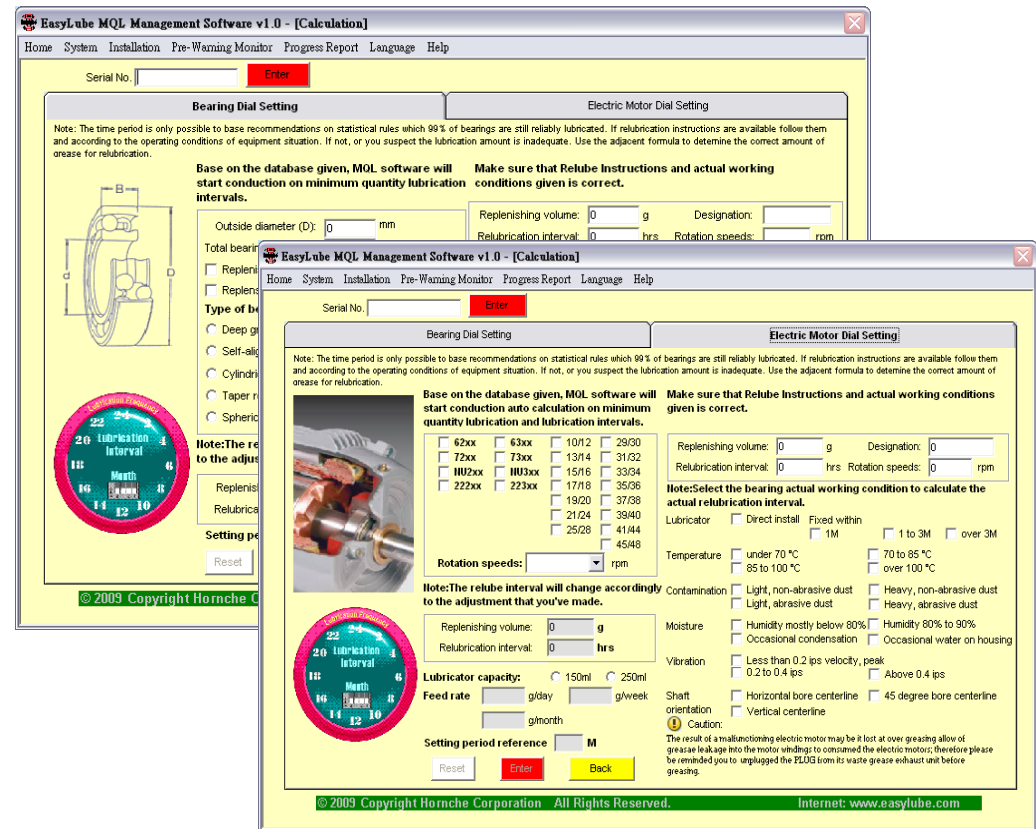

Fig.6
- 3 Then select the bearing type, rotation speed and actual working condition (Fig.6), the MQL program will automatically calculate the actual **Relubrication Interval**.